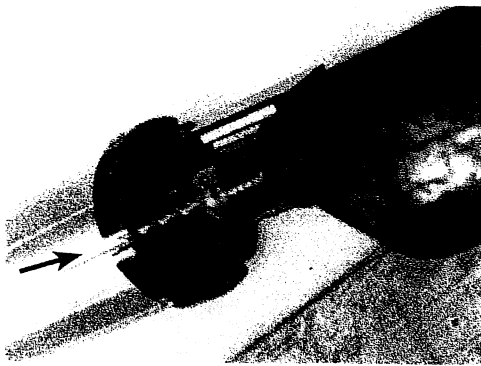

FIG. 1
1. Using a 3/16" drill bit, drill a hole in the left (as you face the vehicle) black end cap, centered on the roller tube channel in which the awning valance is installed. **SEE FIG. 1**